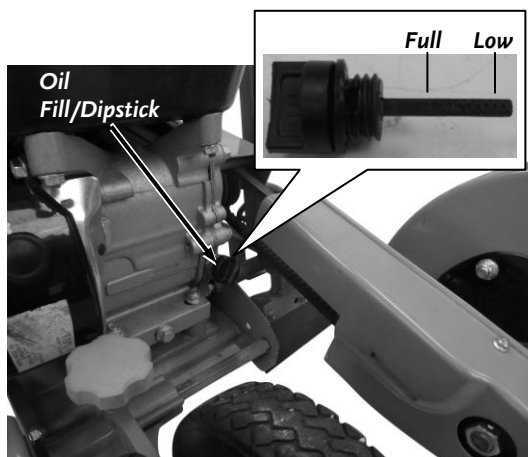

Figure 7
- Clean Oil Fill area (**Figure 7**).